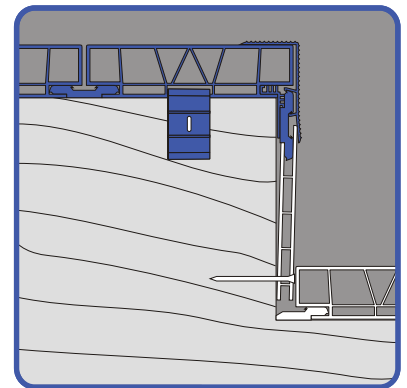

Figure 11
Step 1. Use stringers when building steps. Stringers should have a rise of 6 to 7", with a tread depth of 12". Use end clamps, anchor biscuits, and finishing trim to finish the outer edge of the stair tread (as you would for finishing exposed deck edges). Rip fascia to be 1½" smaller than the rise (e.g. fascia for stringers with a 6" rise should be ripped to 4½" in width). Slide the fascia under the finishing trim and around the anchor biscuits with the ripped side facing down. Secure the bottom of the fascia with a deck screw driven through the fascia into the stringer (see Figure 11).